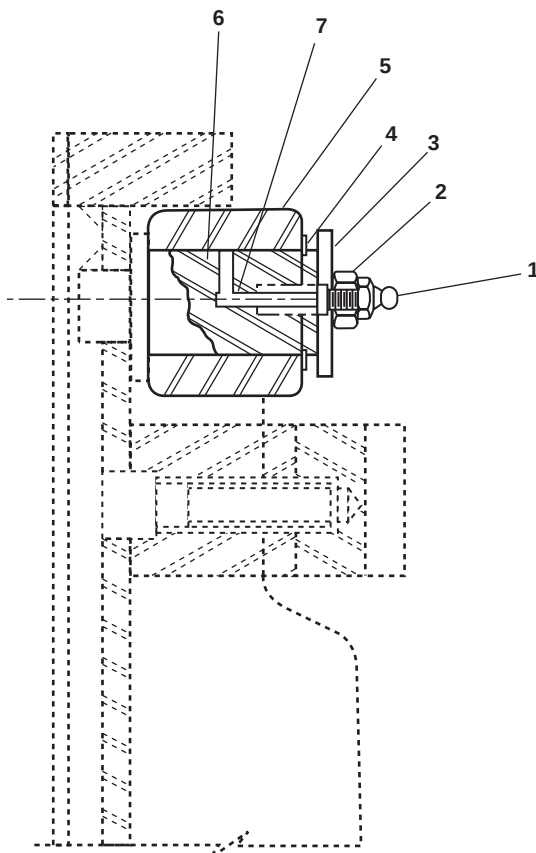

Figure 1. Hydraulic Watertight Door
1. Remove the grease fitting (figure 1, item 1).
2. Remove the hex nut (figure 1, item 2) and the metal guide (figure 1, item 3).
3. Remove the washer (figure 1, item 4).
5. Slide the roller (figure 1, item 5) off the pin (figure 1, item 6).
4. Clean the old grease out of the 90-degree cavity (figure 1, item 7).